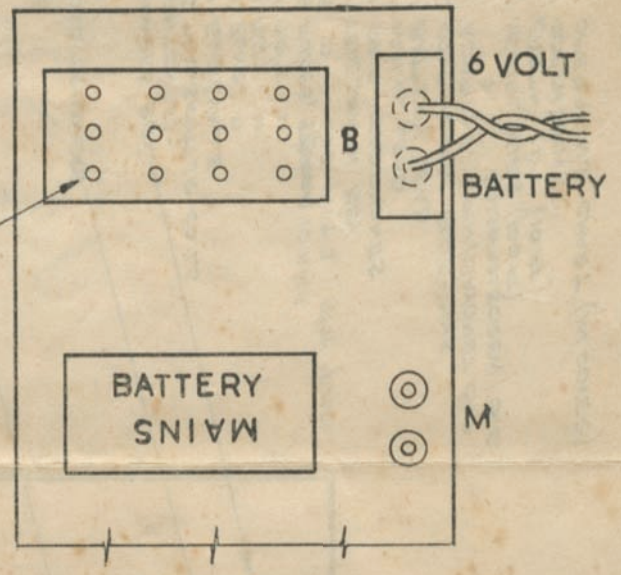

FIG. 10.
- (a) With the "ON-OFF" switch on the Power Pack in the "OFF" position connect the lead provided to the battery terminals—polarity will not affect performance—and plug on to the large pins marked "B" Fig. 10.
- (b) Set the "Battery-Mains" plug to "Battery" Fig. 10.